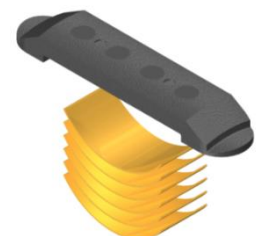

Fig. 6
**NOTE12**: Install six (6ea) springs per drag block (Fig. 6).